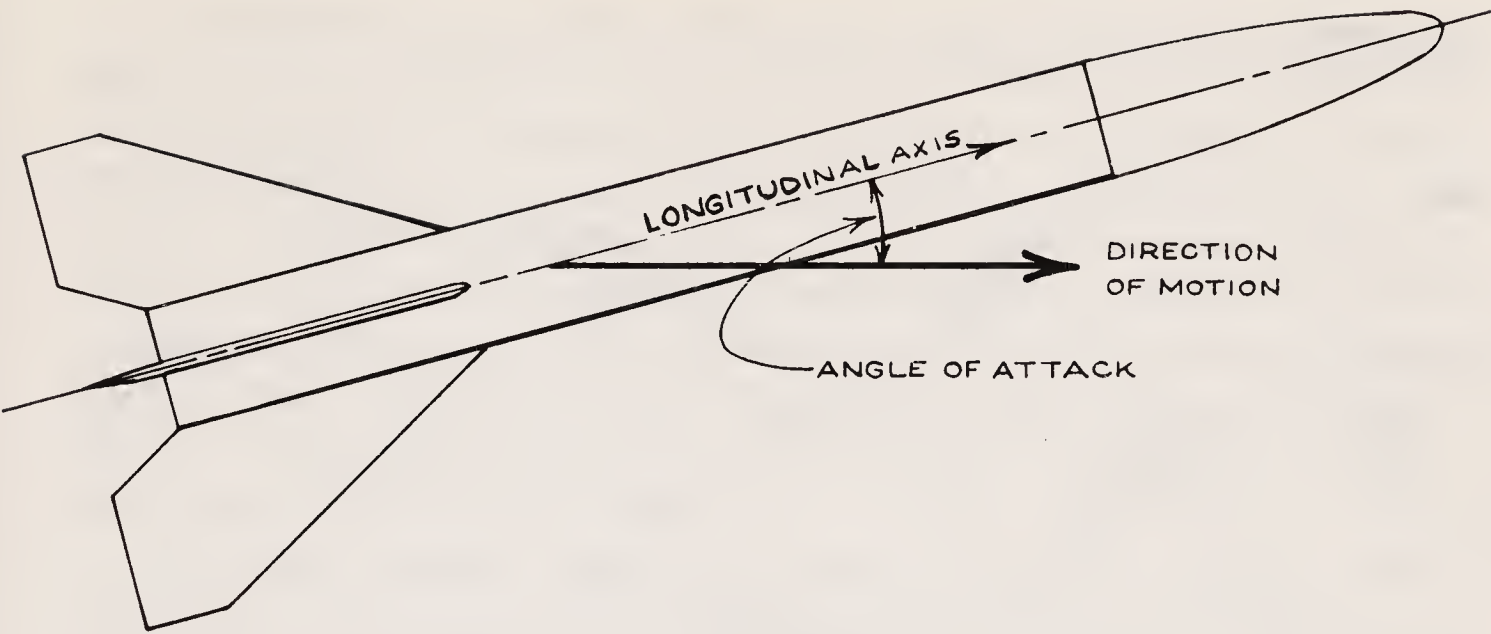

Figure 8-4 Graphic definition of angle of attack.
2. Air drag increases as the *square* of the velocity. Double the velocity, and the drag force goes up *four times*. The faster the model goes, the greater the drag force becomes. See Figure 8-4.